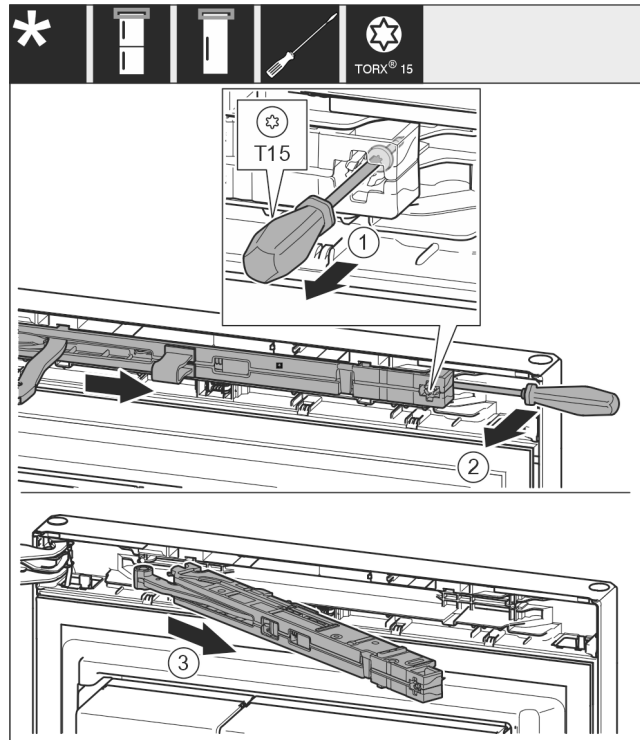

Fig. 12
- ▶ Use screwdriver to loosen the screw Fig. 12 (1) on the closing damper unit by 14 mm.
- ▶ Lever the closing damper unit Fig. 12 (2) forwards on the handle side using a screwdriver.
- ▶ Pull out the closing damper unit Fig. 12 (3).